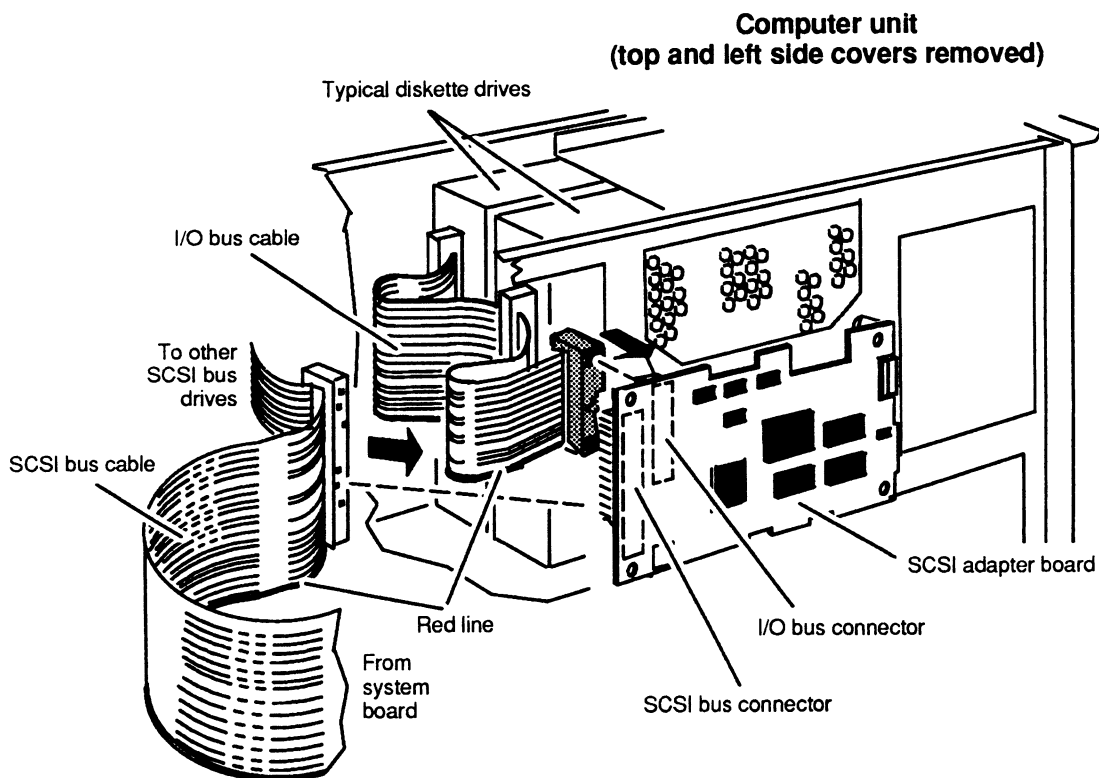

Figure 2-19 Plugging the SCSI Bus and I/O Bus Cables into the SCSI Adapter Board
3. Plug the the SCSI bus and the I/O bus cables into the SCSI adapter board as shown in Figure 2-19. Be sure to in plug each cable so that the red line is on the bottom.